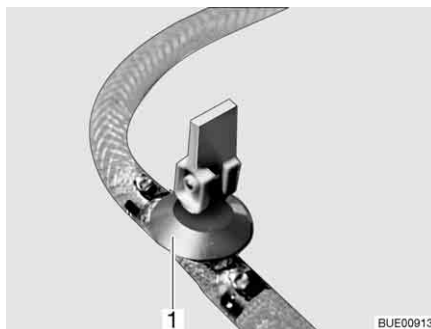

Fig. 142 Drain cock
- Close the drain cock(s). Position the rocking lever (Fig. 142,1) horizontally.
- Open drain cock(s) (Fig. 142). To do so, set the rocking lever (Fig. 142,1) in a vertical position. The boiler is drained to the outside.